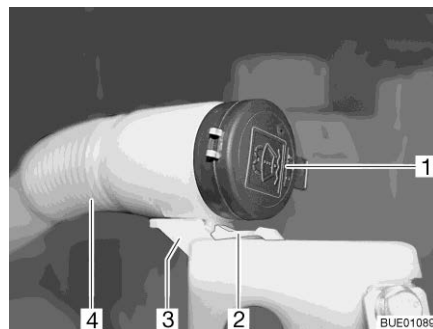

Fig. 42 Washer fluid container filler neck
- Push the handle (Fig. 42,2) down and keep it pressed.
- Pull the flexible hose (Fig. 42,4) to the front and out of the holder (Fig. 42,3).
- Remove the lid (Fig. 42,1) from the filler neck of the washer fluid container.